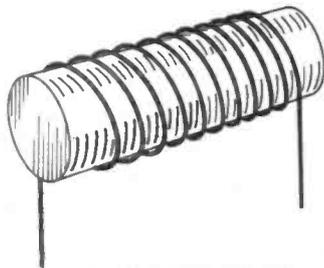

Fig. 1. A solenoid coil.
In practice, however, it doesn't work out quite like that. If you have a coil like the one in Fig. 1, with 16 turns, and you remove 8 of them, you have done something else, too. You have changed the shape. What started off as a coil about twice as long as it was thick, ends up as one whose length is about the same as its thickness (i.e. diameter).
This is why those formulae are so complicated. They take all three factors into consideration. (For any courageous reader with a calculator, the first formula is approximately right for coils of ordinary shape, like Fig. 1. Formula (2) is for short coils. Formula (3) is for ordinary coils but is more accurate than (1). All dimensions are in inches and the inductance is in micro-henries. All coils are "single layer", that is, with just one layer of wire, not several on top of each other.)